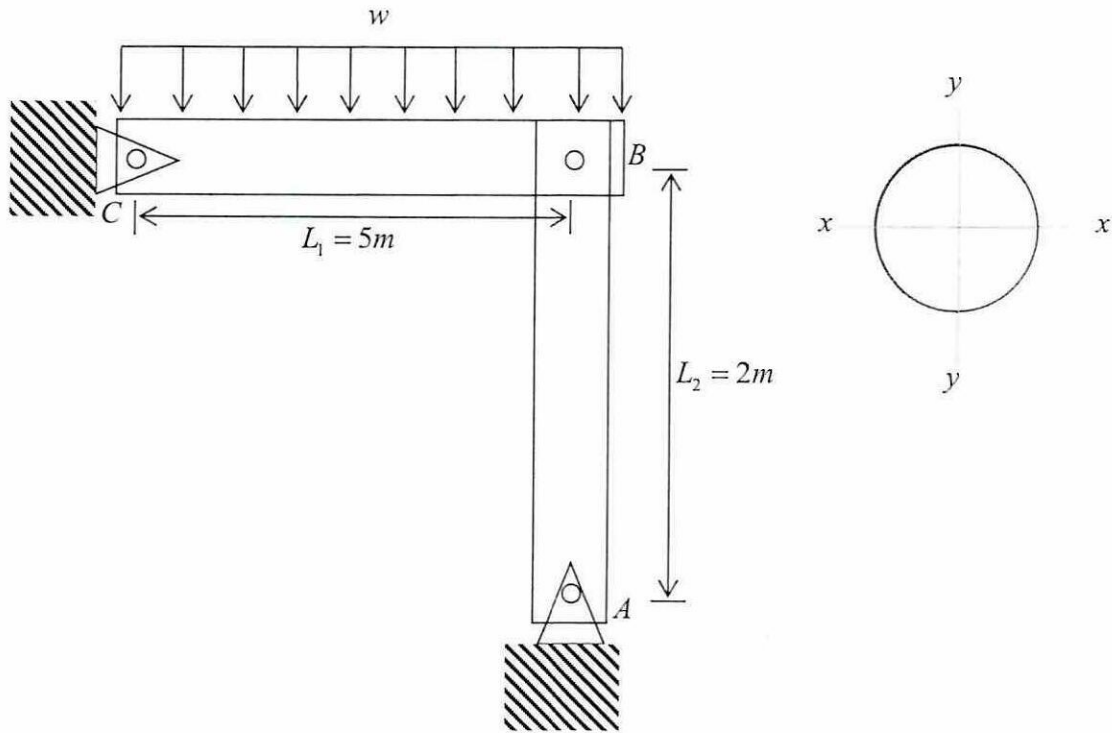

Figure Q3
- Q3** A horizontal beam BC is subjected to uniformly distributed load, w and at the same time it is supported at end B by a column AB (diameter of 50 mm) as shown in **Figure Q3**. Factor of safety with respect to buckling is 2.0 and the column is made of steel alloy with structural A992. Assume that all bars are pin-connected. Given $E=200\text{GPa}$.